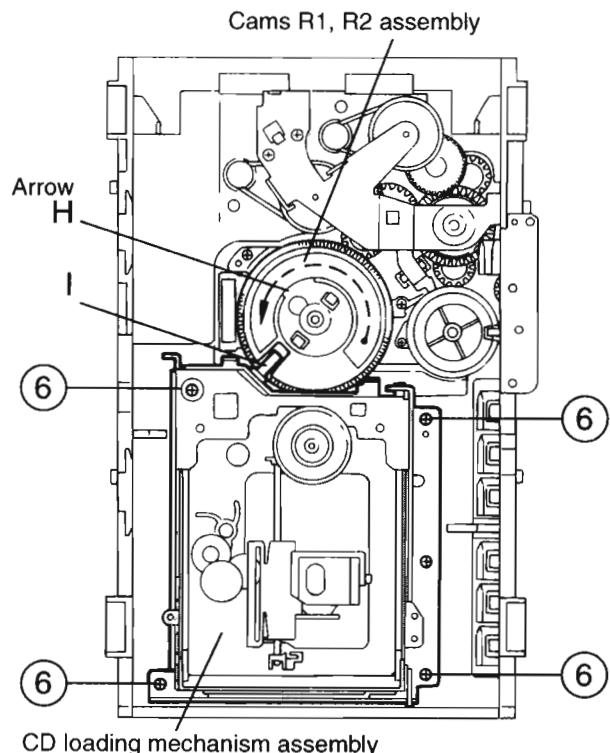

Fig.10
■ Removing the CD loading mechanism assembly(See Fig.10)
1. While turning the cams R1 and R2 assembly in the arrow direction "H" , align the shaft "I" of the CD loading mechanism assembly to the position shown in Fig.10.